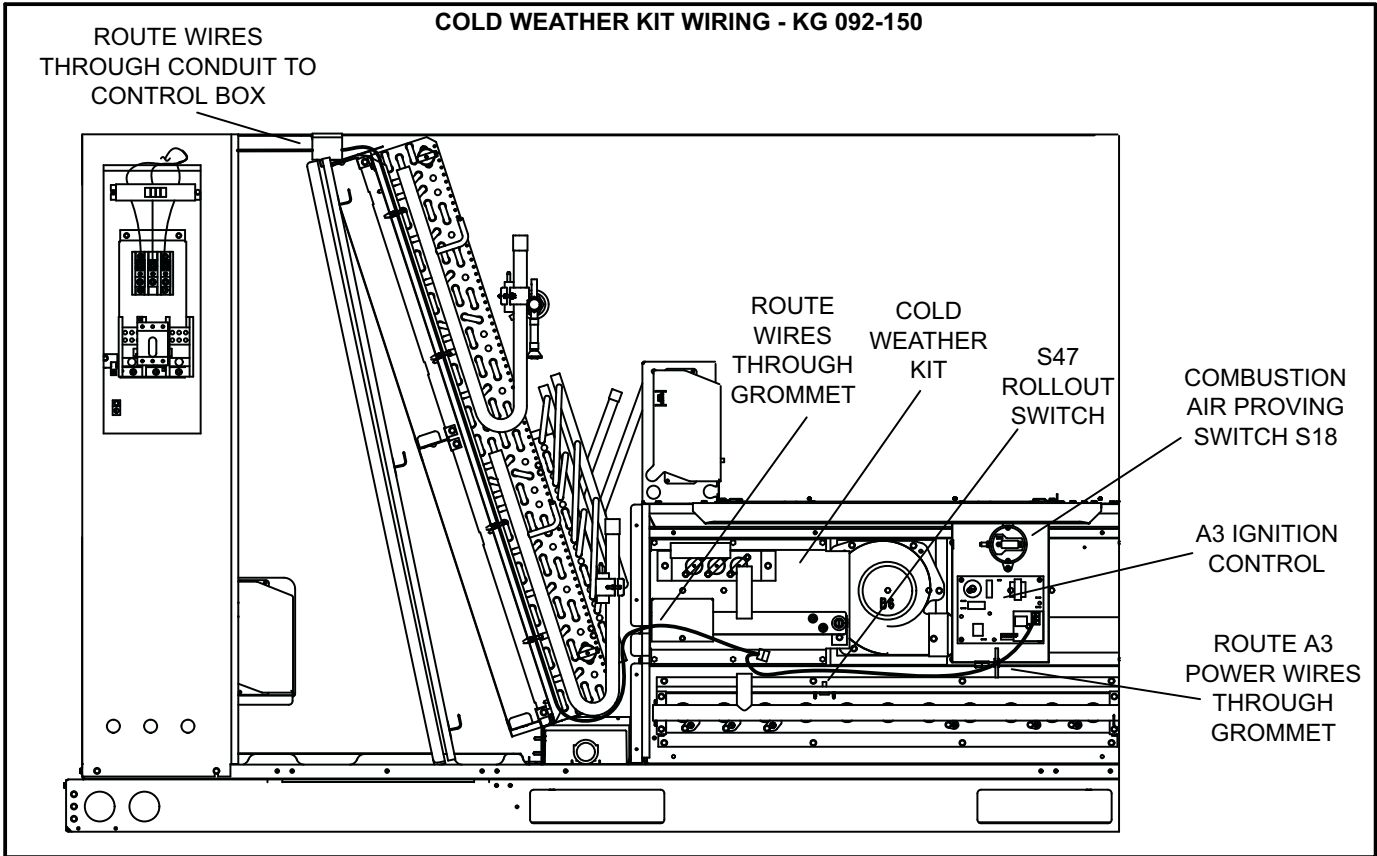

FIGURE 5
- 3- Locate the harness labeled 604956-01 and identify six wires labeled K1-L1, K1-L2, K125-4, K125-7, K125-A, and K125-B. Route the six wires from the heat section through the side grommet to the control box. See figure 5. Discard harness labeled 604954-01 provided in kit